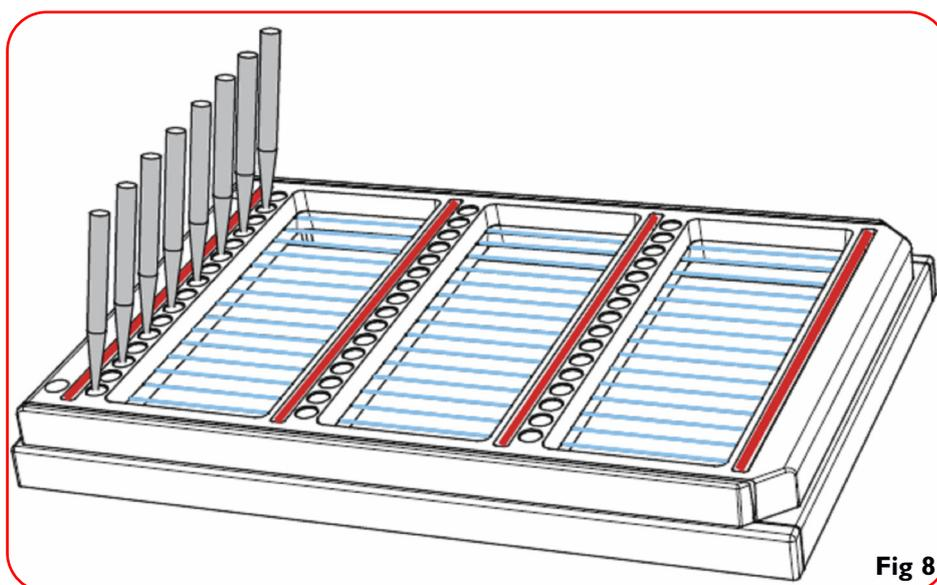

Figure 8
8. Pipette 20 µl per well of crystallization condition into the precipitation wells as shown in **Figure 8**. To expedite this step a multi-channel 8-way pipette can be used. Please note that the first tip enters the well #1 and the second will be in #3 etc. And a second pipetting operation is used to fill wells 2, 4, 6 etc. Use the **CrystalHarp™** plate scoring sheet to register the location of each condition. Ensure no air bubble is trapped on the bottom of the well.